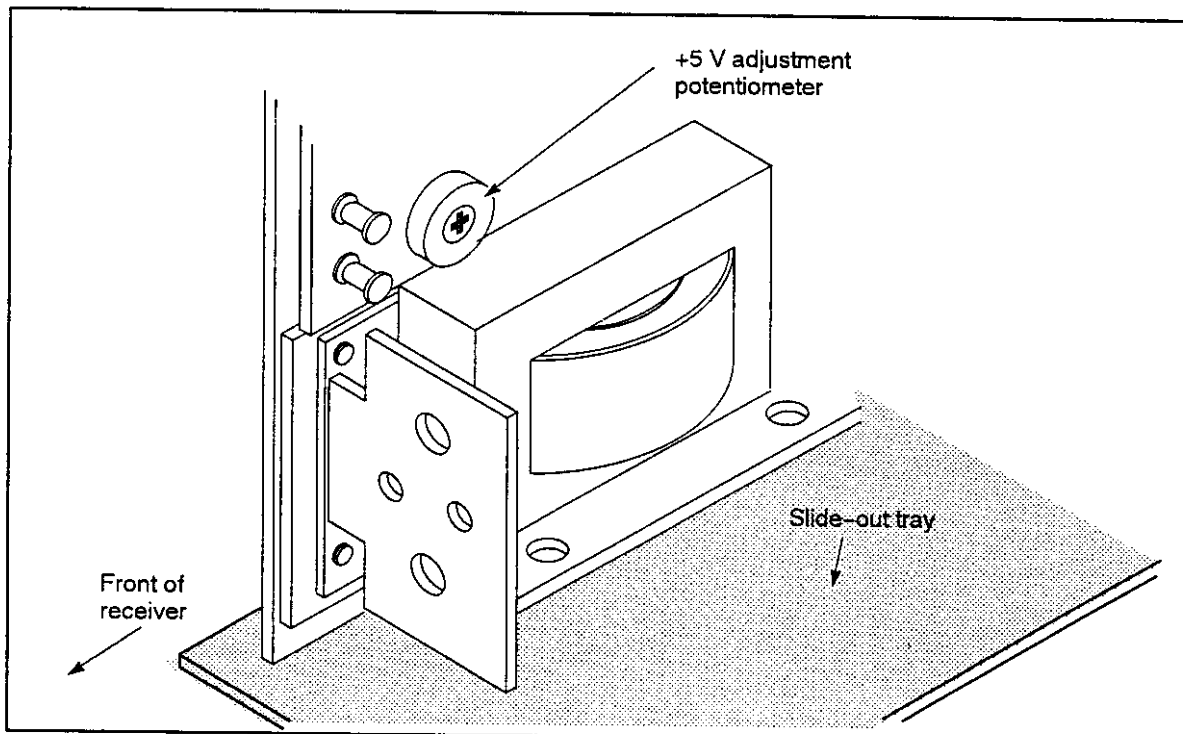

Figure 46. Location of the Receiver +5 VDC Adjustment.
- If necessary to adjust the output level, use Figure 46 to locate the voltage adjustment potentiometer.